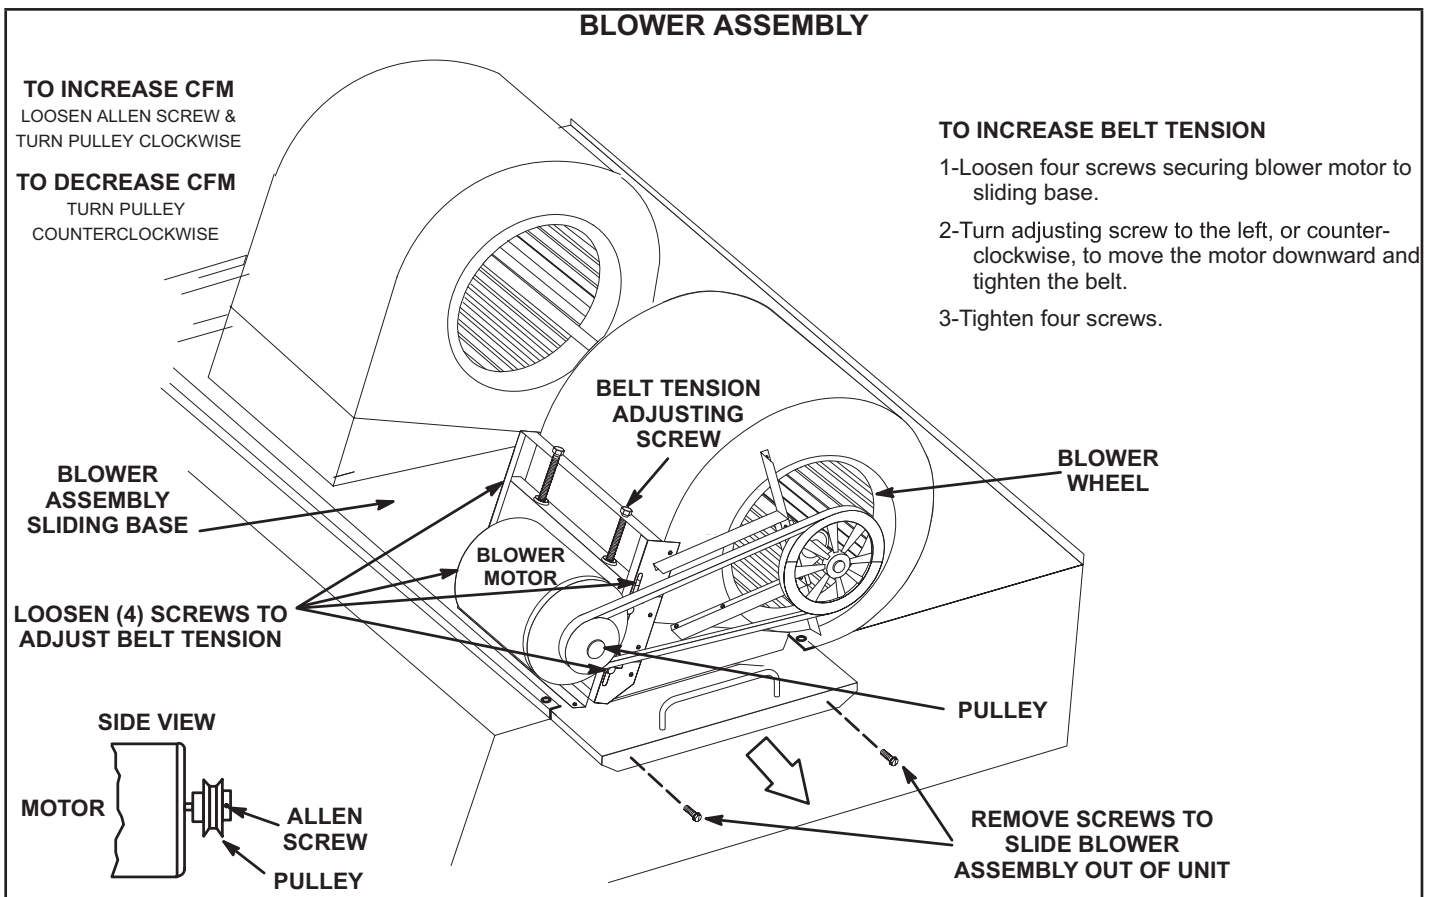

FIGURE 21
2 - Remove screws on either side of blower assembly sliding base. See FIGURE 21.
4 - The blower RPM can be adjusted at the motor pulley. Loosen Allen screw and turn adjustable pulley clockwise to increase CFM. Turn counterclockwise to decrease CFM. See FIGURE 21. Do not exceed minimum and maximum number of pulley turns as shown in TABLE 4.
- 1 - Loosen four screws securing blower motor to sliding base. See FIGURE 21.